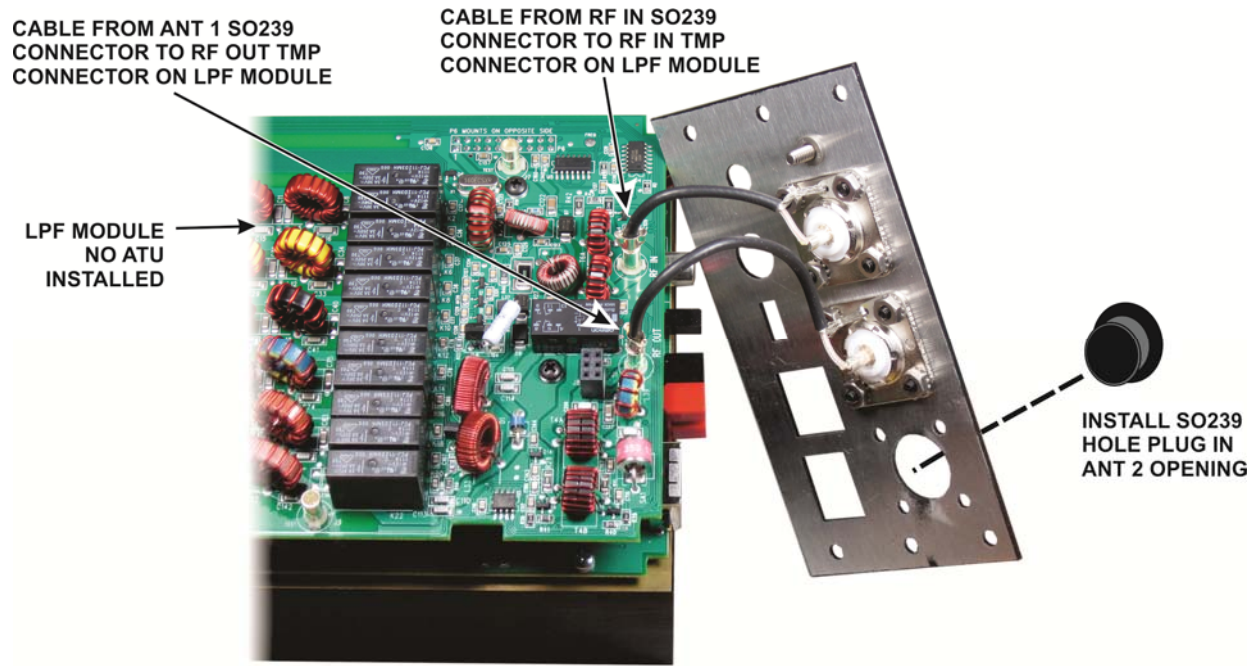

Figure 14. Connecting the Rear Panel Cables with no ATU.
- If you do not have the KXAT3 ATU, see Figure 14. Also insert the hole plug in the unused ANT2 opening as shown in the figure.